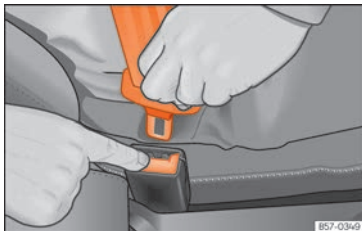

Fig. 12 Release the seat belt's buckle.
- Press the red button on the buckle » » » Fig. 12. The latch plate is released from the buckle.